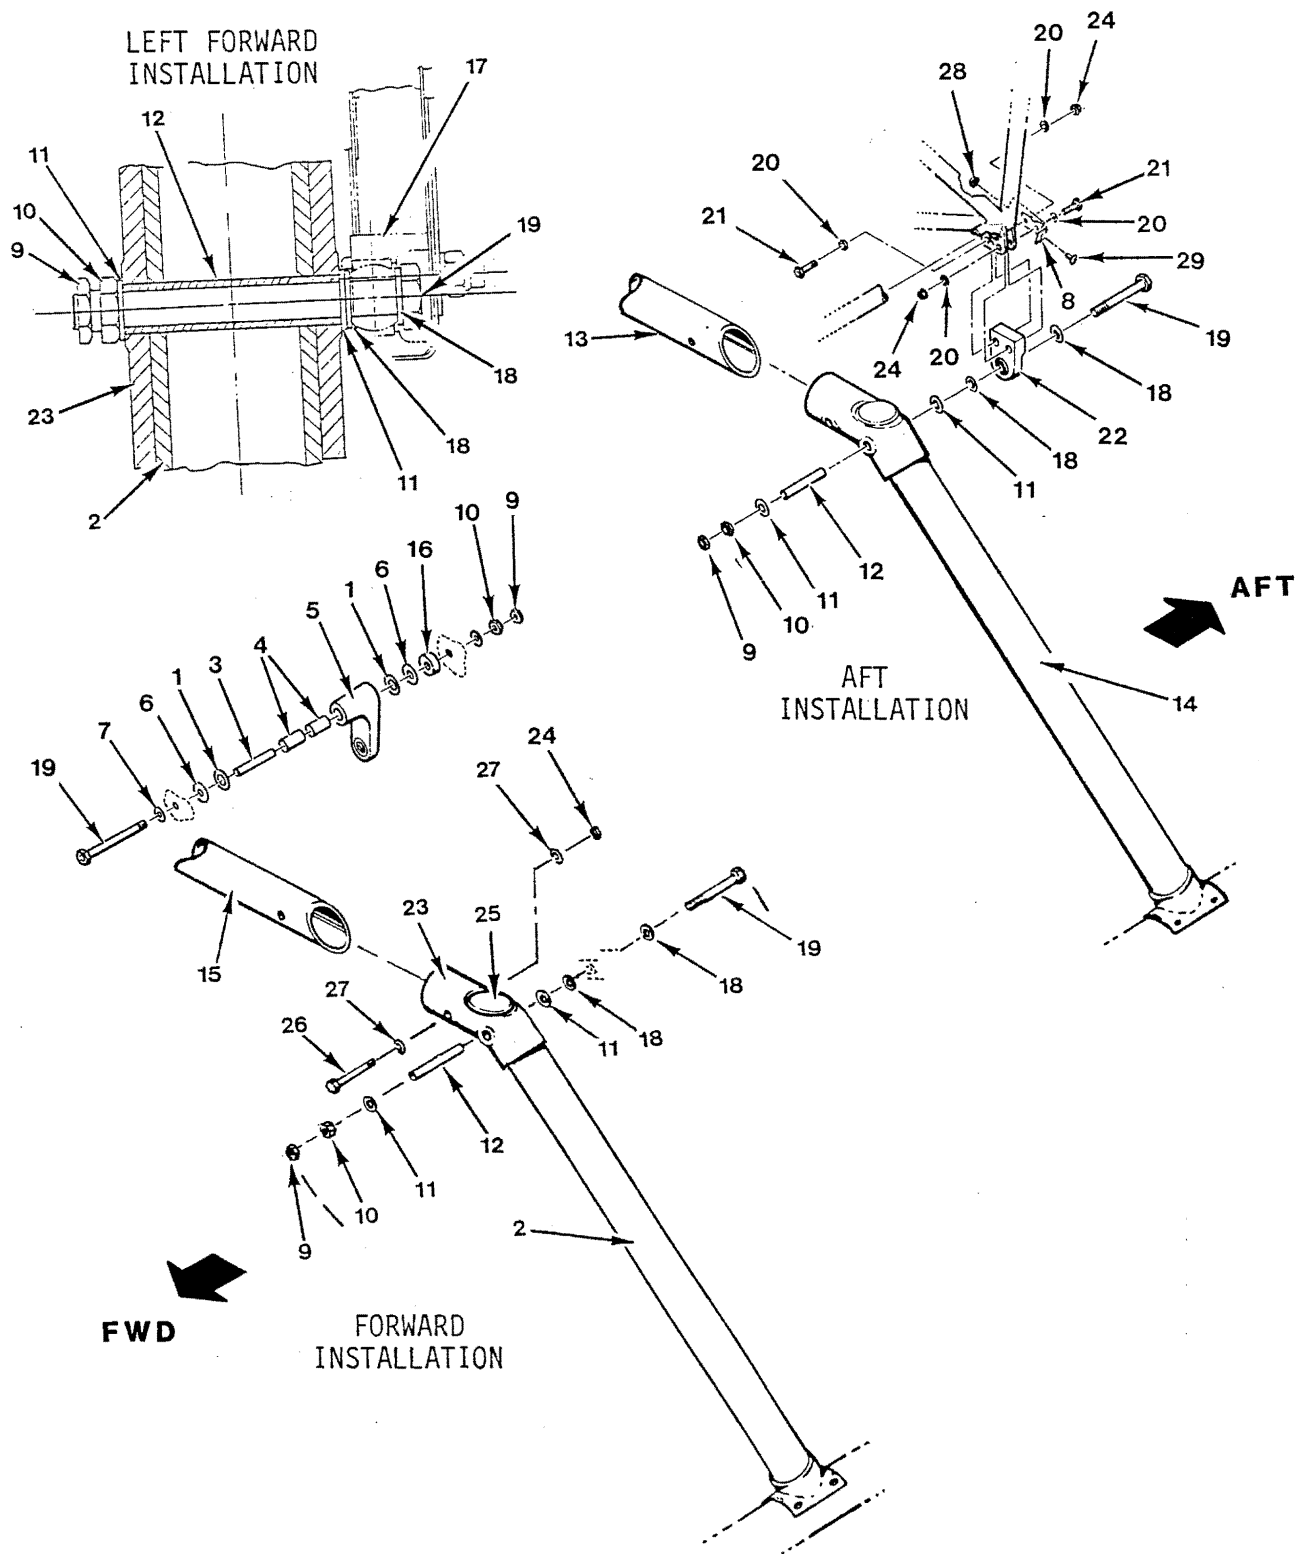

FIGURE 5-1 LANDING GEAR INSTALLATION
- b) Lift the right side of the landing gear and install both right side mounting bolts per Figure 5-1. Torque per Section 1.320, install palnuts, and torque stripe. Repeat on left side.
- a) Install cross tube into the elbows and install bolts per Figure 5-1. Torque bolts per Section 1.320.